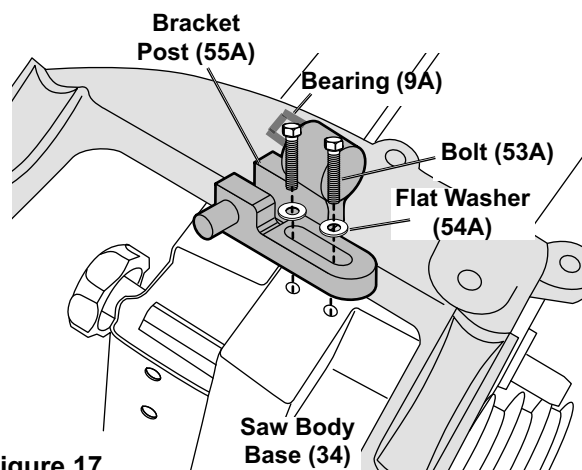

Figure 17
4. Attach the Bracket Post (55A) with Bearing (9A) to the Saw Body Base (34A) next to the Table Bracket. Secure in place with two Hex Bolts (53A) and Flat Washers (54A), as shown in Figure 17.